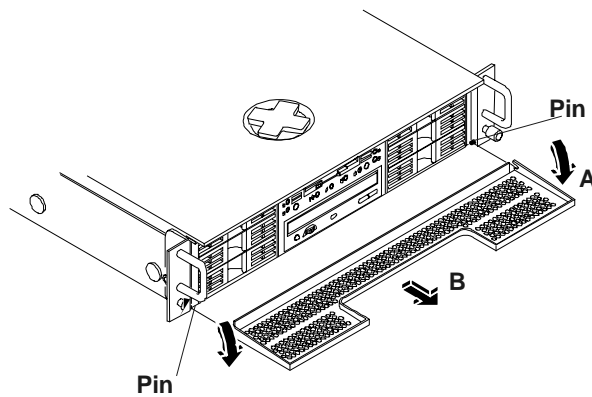

Figure 2-1. Removing the Front Bezel
2. Lift the bezel out toward you to remove it from the chassis. See Figure 2-1.
1. Hook the bottom edge of the bezel onto the pins at the front of the chassis. See Figure 2-1.